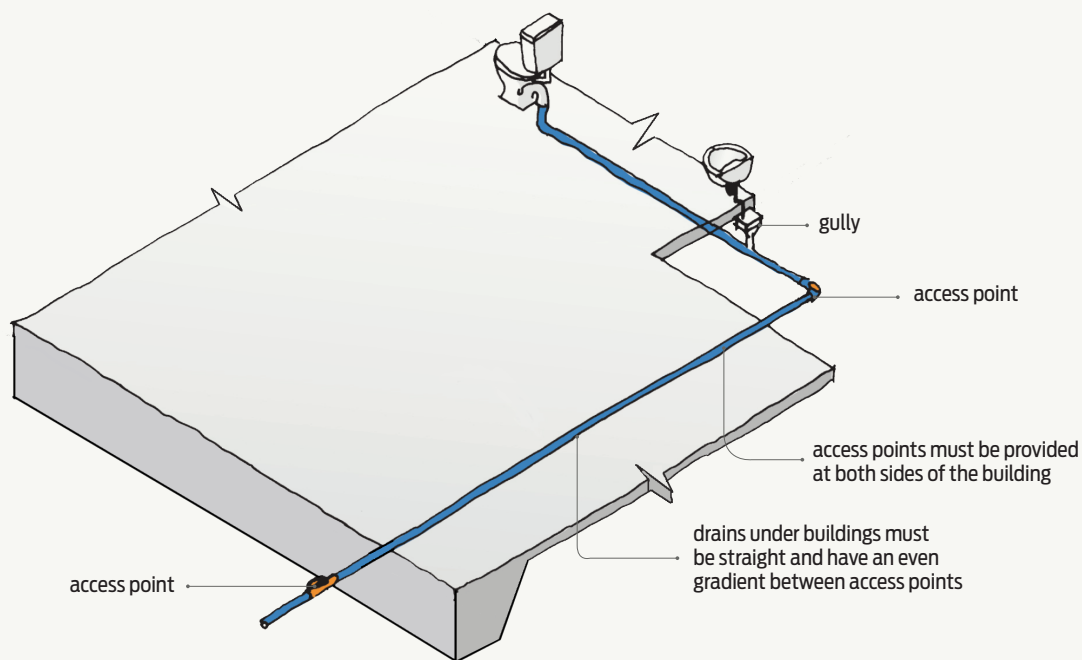

Figure 1
- be laid straight and with an even gradient (see Figure 1)